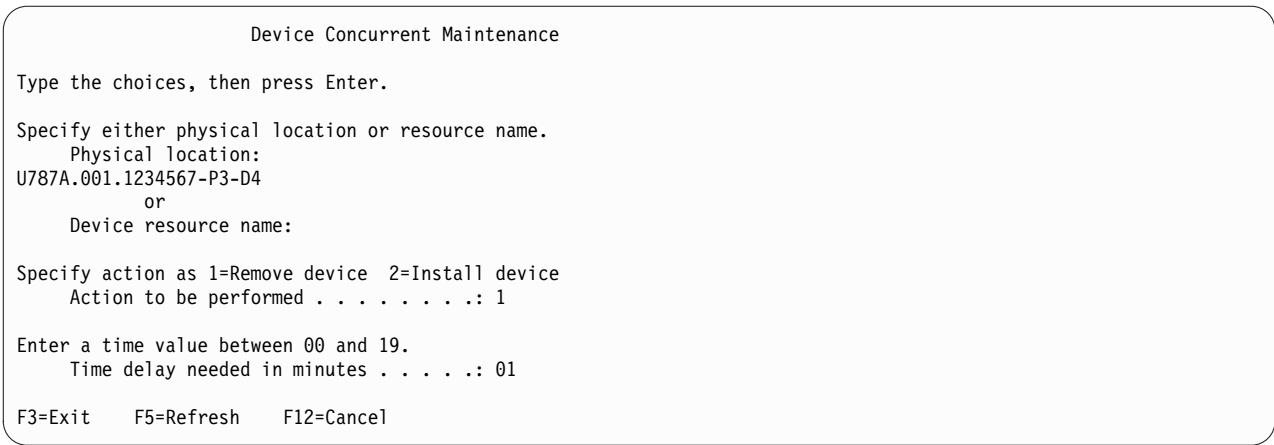

Figure 85. Example Device Concurrent Maintenance display
- 16. From the Hardware Service Manager, navigate to **Select Device Concurrent Maintenance** option. Press Enter. The Device Concurrent Maintenance display is shown, as shown in the Figure 85 on page 94.